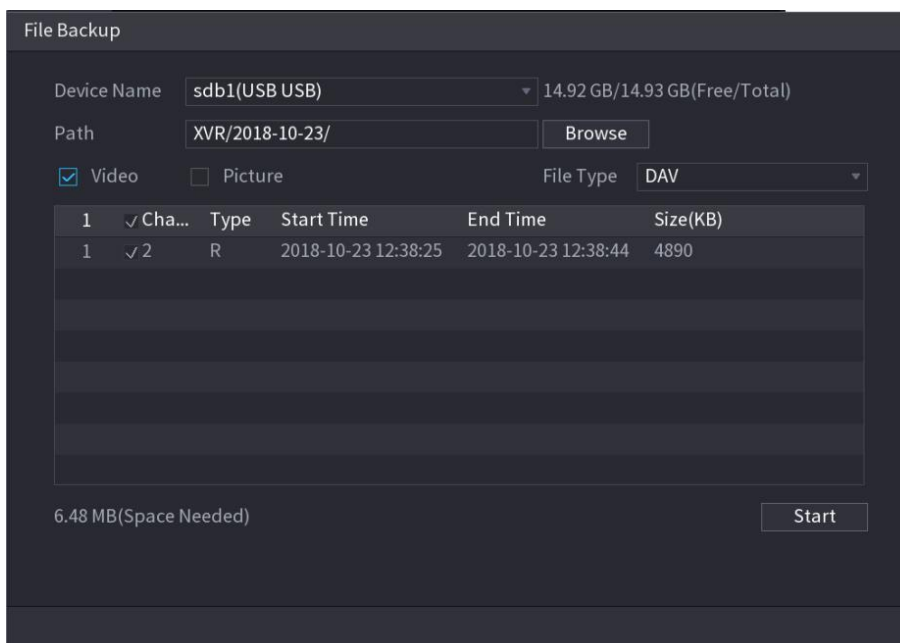

Figure 5-174
- To back up the recorded files to the external storage device, select files, click **Backup**, select the save path and file type, and then click **Start**. See Figure 5-174.